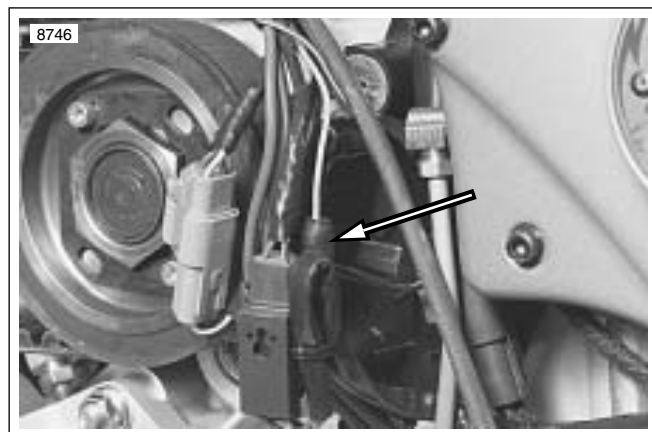

Figure 7-93. Neutral Switch Connector [131]
4. See Figure 7-93. Connect neutral switch connector.